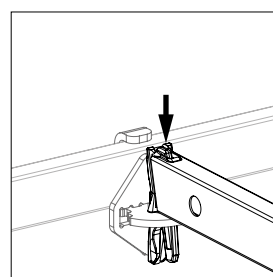

Fig. A11.06h
5. Knock in the wedges of the ledgers firmly. (Fig. A11.06h)